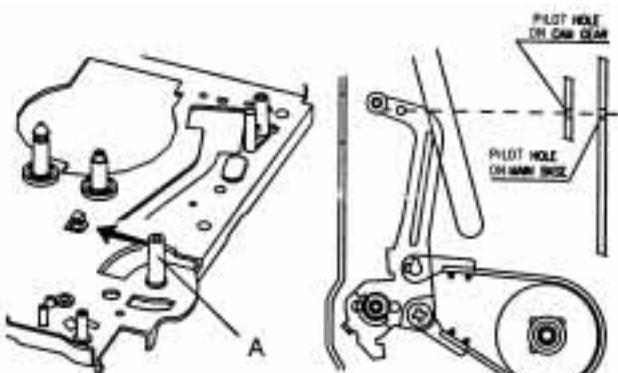

Fig. 27- Tension Band Assem-
2. Turn the deck mechanism upside down (fig. 27) is facing down (fig. 27)